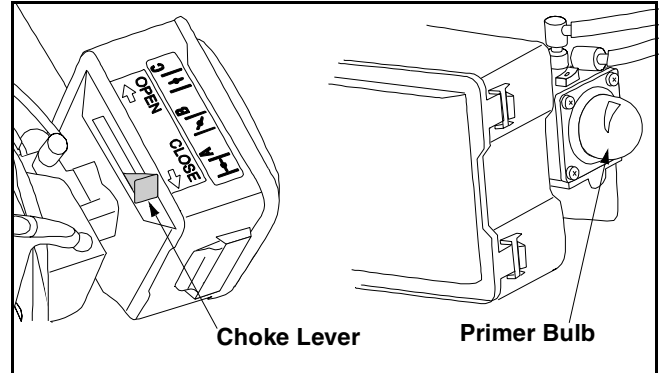

Figure 4
- Push On/Off switch on upper handle to On (I).
- Place choke lever in Close (A) position. See Figure 4.
- Fully press and release the primer bulb slowly 5 to 7 times. Gasoline should be felt and visible in the bulb. Press primer a few more time, if gasoline is not noticed. See Figure 4.
- Move the choke to Partial (B) position.
- Move choke lever to Open (C) position.